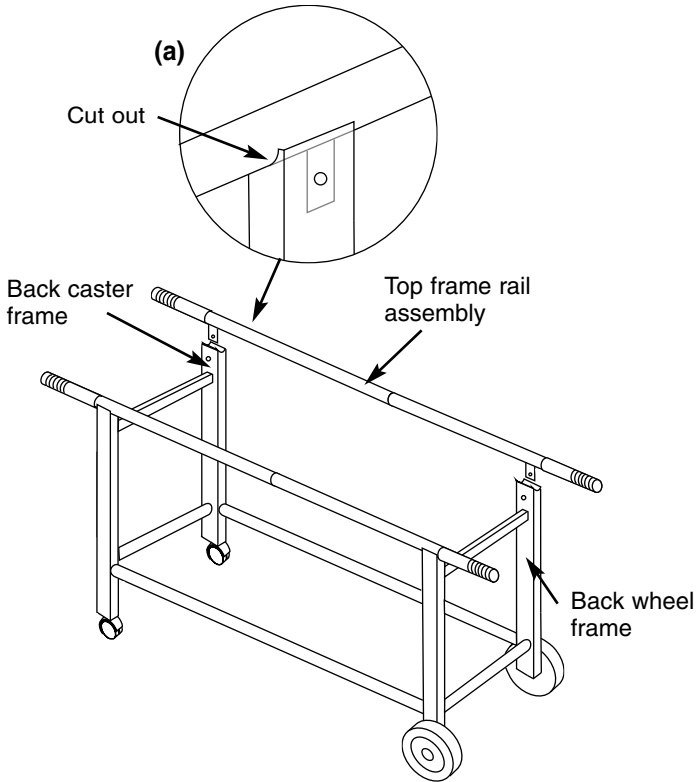

Figure 9
Position the top frame rail assembly with the tabs to the inside of the cart. Figure 9 (a).
b) the tabs of the top rail may not be to the inside of the cart. Refer to Figure 9.